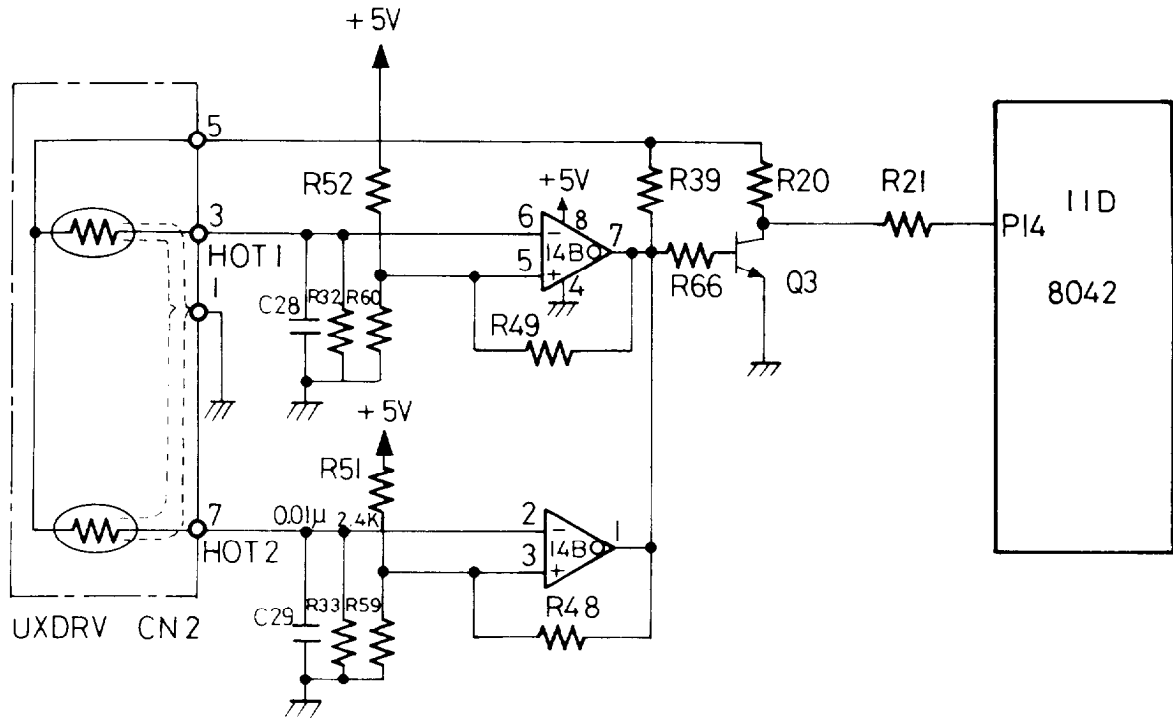

Fig. 2.24 Head temperature sensor circuit
5) Head temperature sensor circuit (Fig. 2.24)